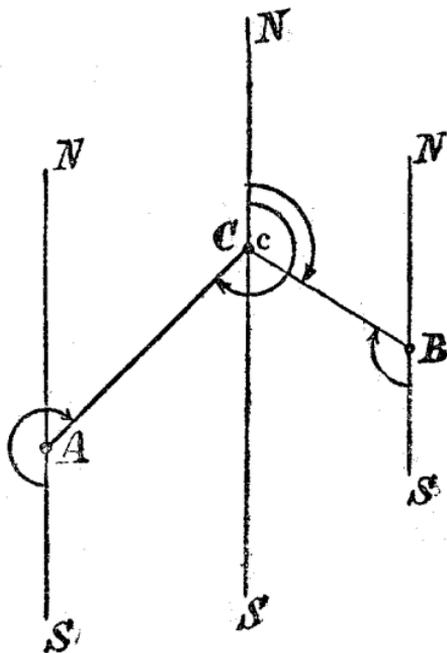

FIG. 141.
**By bearings.**—Knowing A and B, but being at C, to establish C, take the bearing CA and CB, plot them, their intersection will be (c). (Fig. 141.)